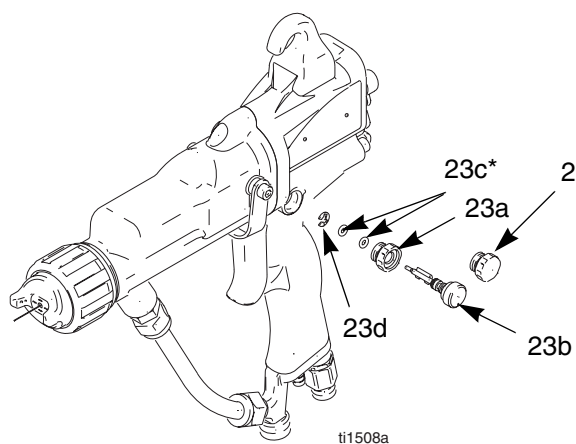

Fig. 22. Atomizing Air Restrictor Valve
2. Remove the atomizing air restrictor valve (23). Inspect the o-ring (23c*). Replace if necessary. See FIG. 22.
3. Install a new atomizing air restrictor valve (23), or disassemble and replace parts individually. The valve protrusion must be oriented to clear the air valve (21) shaft.